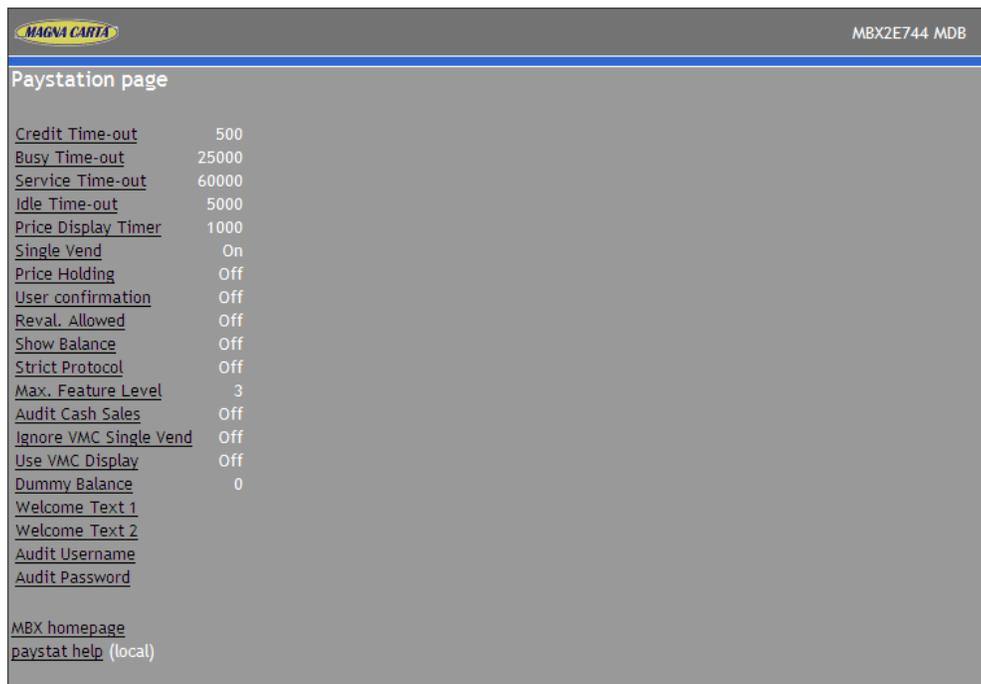
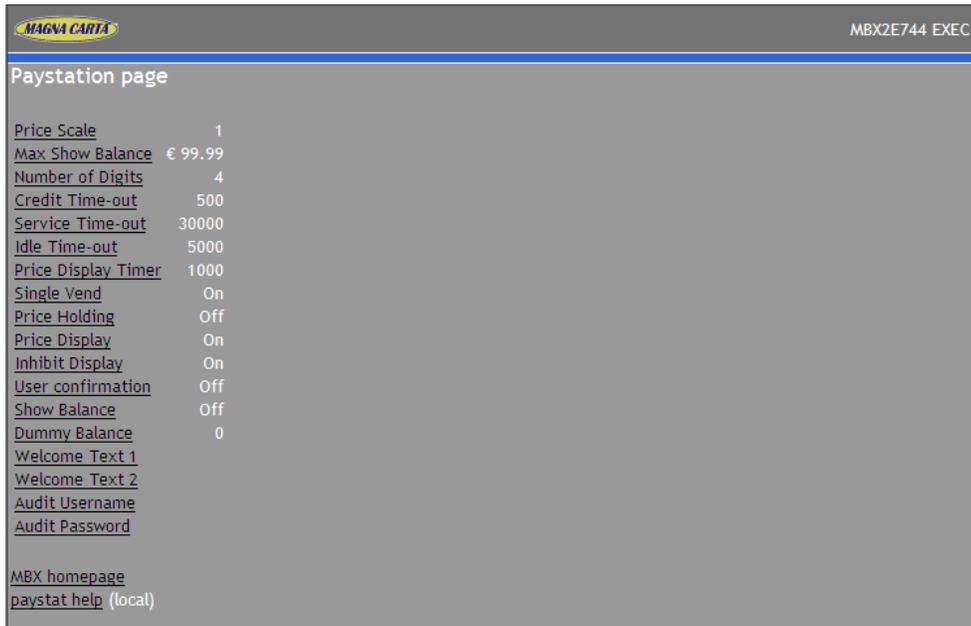

Figure 4-9 Paystation page of the Magnabox of a FacilityPro Vending 3000 for MDB
Figure 4-10 Paystation page of the Magnabox of a FacilityPro Vending 3000 for Executive
8. Enter your user name and password and click **OK**. (Default value = '**Demo**', '**Demo**'). You will see the paystation page of your Magnabox (Figure 4-9 for MDB, Figure 4-10 for Executive).